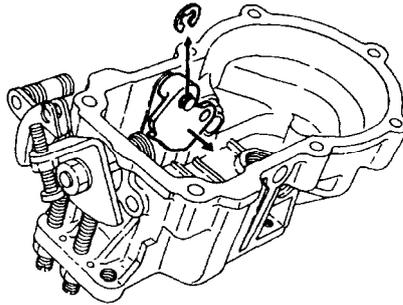

Figure 96 Removing the Torque Cam
- u. Remove the snap-ring securing the torque cam to the pivot pin and remove the torque cam from the governor cover (Figure 96).